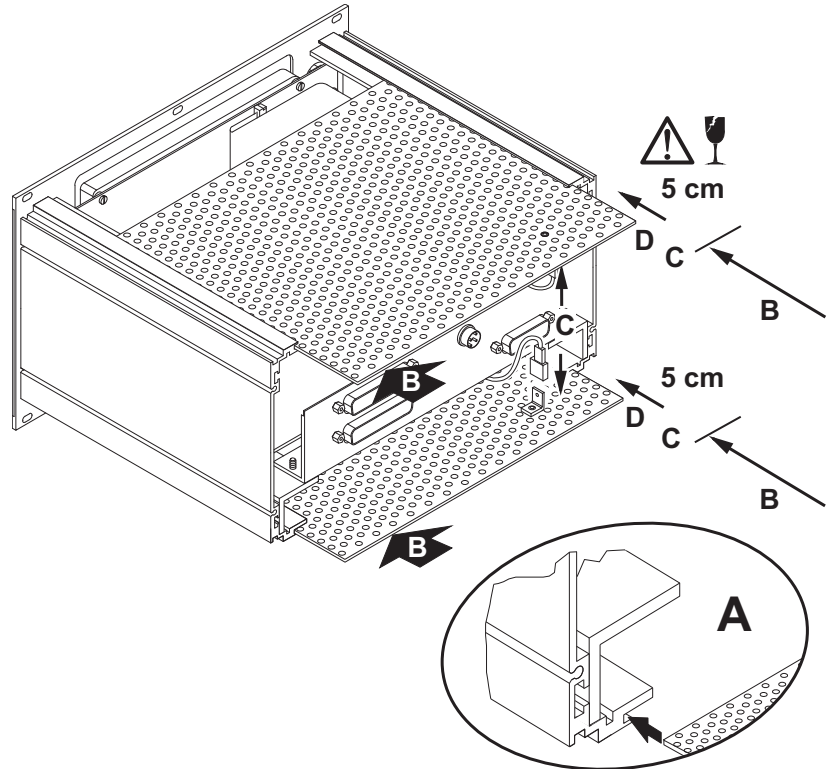

Fig. 8-9: Remounting of the ground cables and the cover plates
13. Carefully feed the upper and the lower perforated metal cover plate into the corresponding guide tracks (A). Move them inside with **approx. 5 cm** left outside (B). Fasten with care the ground cables (C). Avoid damage of the cables and the lockers because of canting. Move the plates completely inside (D). The rear flanges of them have to flush with the guide tracks and the side panels! (Fig. 8-9)